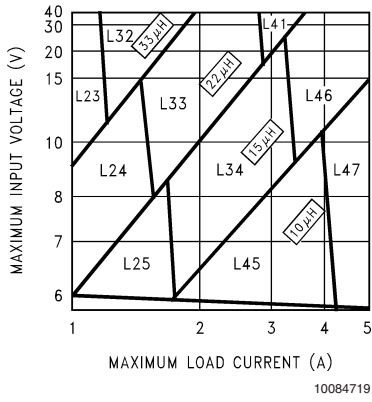
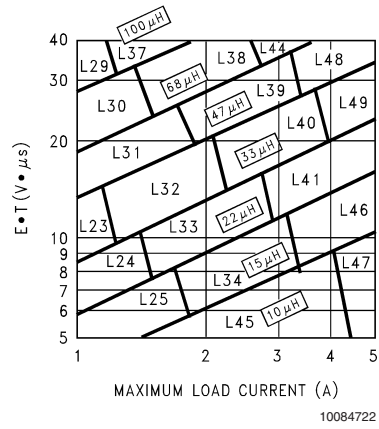

FIGURE 3. LM2679-3.3
FIGURE 6. LM2679-ADJ
**Step 3:** Determine the inductor required by using one of the four nomographs, *Figure 3* through *Figure 6*. Table 1 provides a specific manufacturer and part number for the inductor.
**Step 5:** Determine an input capacitor from Table 4 for fixed output voltage applications. Use Table 2 to find the specific capacitor type. For adjustable output circuits select a capacitor from Table 2 with a sufficient working voltage (WV) rating greater than  $V_{in\ max}$ , and an rms current rating greater than one-half the maximum load current (2 or more capacitors in parallel may be required).
**Step 3:** Use the nomograph for the 3.3V device, *Figure 3*. The intersection of the 16V horizontal line ( $V_{in\ max}$ ) and the 4A vertical line ( $I_{load\ max}$ ) indicates that L46, a  $15\mu\text{H}$  inductor, is required.
**Step 3:** To use the nomograph for the adjustable device, *Figure 6*, requires a calculation of the inductor Volt•microsecond constant ( $E \cdot T$  expressed in  $\text{V} \cdot \mu\text{s}$ ) from the following formula:
Using *Figure 6*, the intersection of  $27V \cdot \mu s$  horizontally and the  $3.5A$  vertical line ( $I_{load}$  max) indicates that L48, a  $47\mu H$  inductor, or L49, a  $33\mu H$  inductor could be used. Either inductor will be suitable, but for this example selecting the larger inductance will result in lower ripple current.
**Important Note:** When using the adjustable device in low voltage applications (less than  $3V$  output), if the nomograph, *Figure 6*, selects an inductance of  $22\mu H$  or less, Table 6 does